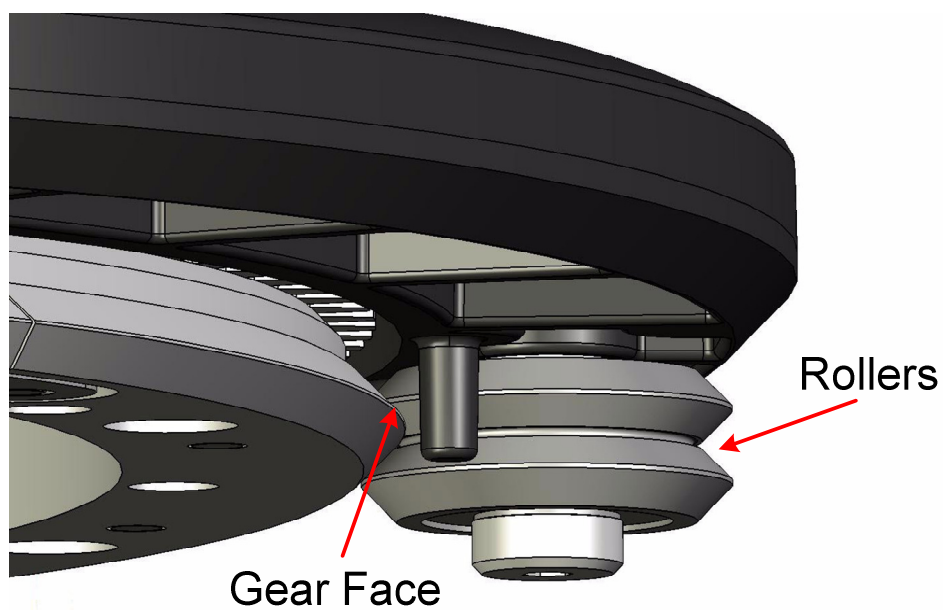

Figure 12 – Leica SteerDirect ES Plus MDU Alignment
2. Fit the MDU around the Main Gear so that the three rollers align on the Main Gear race as shown in Figure 12.
3. Ensure that the main gear Face has properly engaged the three rollers before closing latch. See Figure 12.